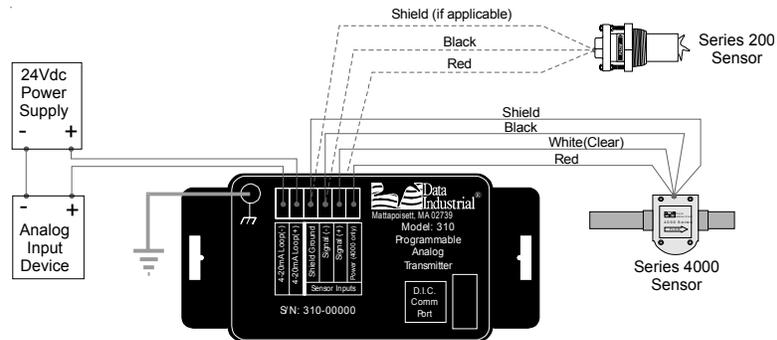

Figure 9: Model 310 wiring to Analog loop and Series 200 or 4000
1. As shown in *Figure 9*, connect the loop power supply positive (+) to the Model 310 terminal marked **4-20mA loop (+)**.